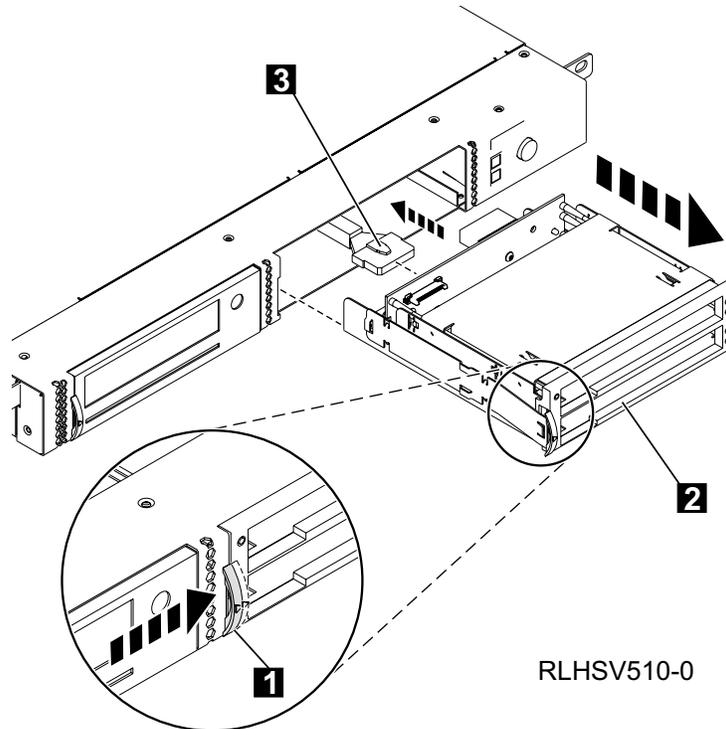

Figure 9. Removing the DVD Drive Assembly
1. Push the latch (see **1** in Figure 9) towards the assembly.